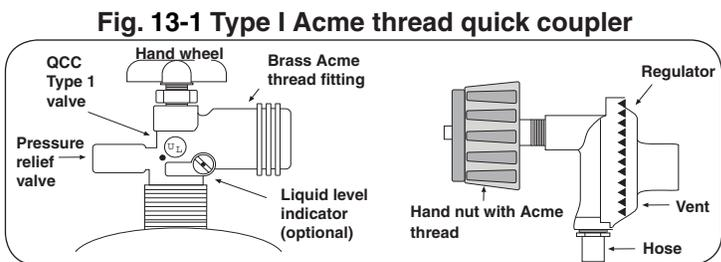

Fig. 13-1 Type I Acme thread quick coupler
- The pressure regulator and hose assembly (Fig. 13-1) supplied with this outdoor gas appliance (L.P. models only) must be used. Original and replacement pressure regulator and hose assemblies must be those specified by the manufacturer for connection with a cylinder connecting device identified as Type I by the *ANSI Z 21.58-2005/CGA 1.6-2005* (see PARTS LIST for ordering information).
**To disconnect:** Turn the hand nut counterclockwise until detached (Fig. 13-1).